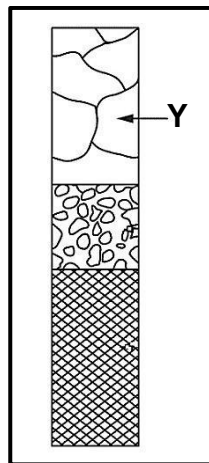

FIGURE 1.6
1.6 FIGURE 1.6 below shows the changes in metal structures during the annealing process. What change is indicated at Y?